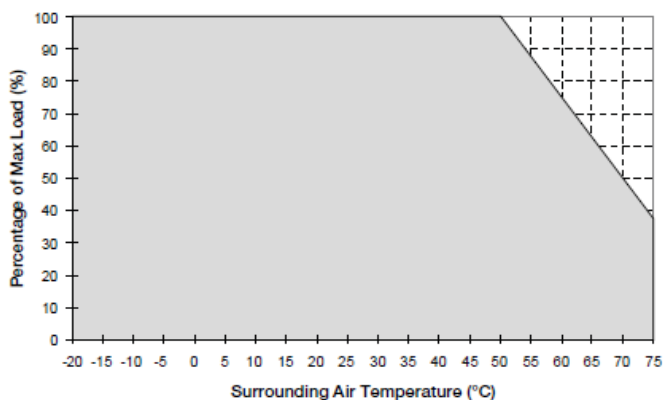

Fig. 1.1 De-rating for Vertical Mounting Orientation
- Power supply components may degrade, or be damaged, when the power supply is continuously used outside the shaded region, refer to the graph shown in Fig. 1.1 & 1.2.